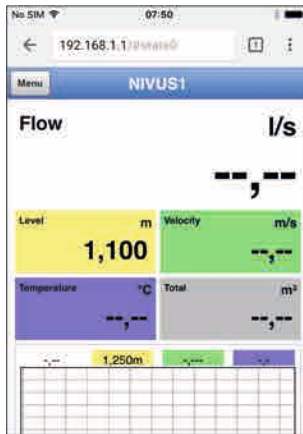

Fig. 31-15 NFM display in browser
7. Type "192.168.1.1" into the IP address field and open. The NivuFlow Mobile display (Fig. 31-15) is indicated as soon as the connection has been established successfully.